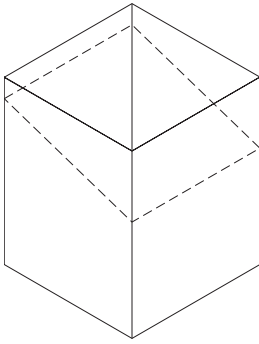

Figure 18
1. Mark a line on the side of the Cathedral Ceiling Support Box to correspond to the line of the roof pitch, as shown in **Figure 18**. Allow for the Support Box to protrude below the low side of the finished ceiling a minimum of 2 inches.